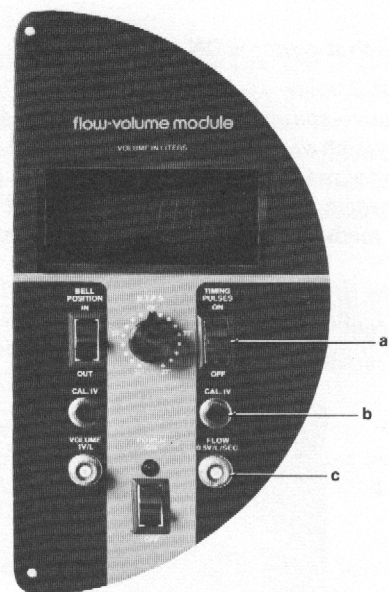

Figure 8 - Flow-Volume Module - Front Panel
A.5. Flow-Volume Module - Front Panel (Figure 8)